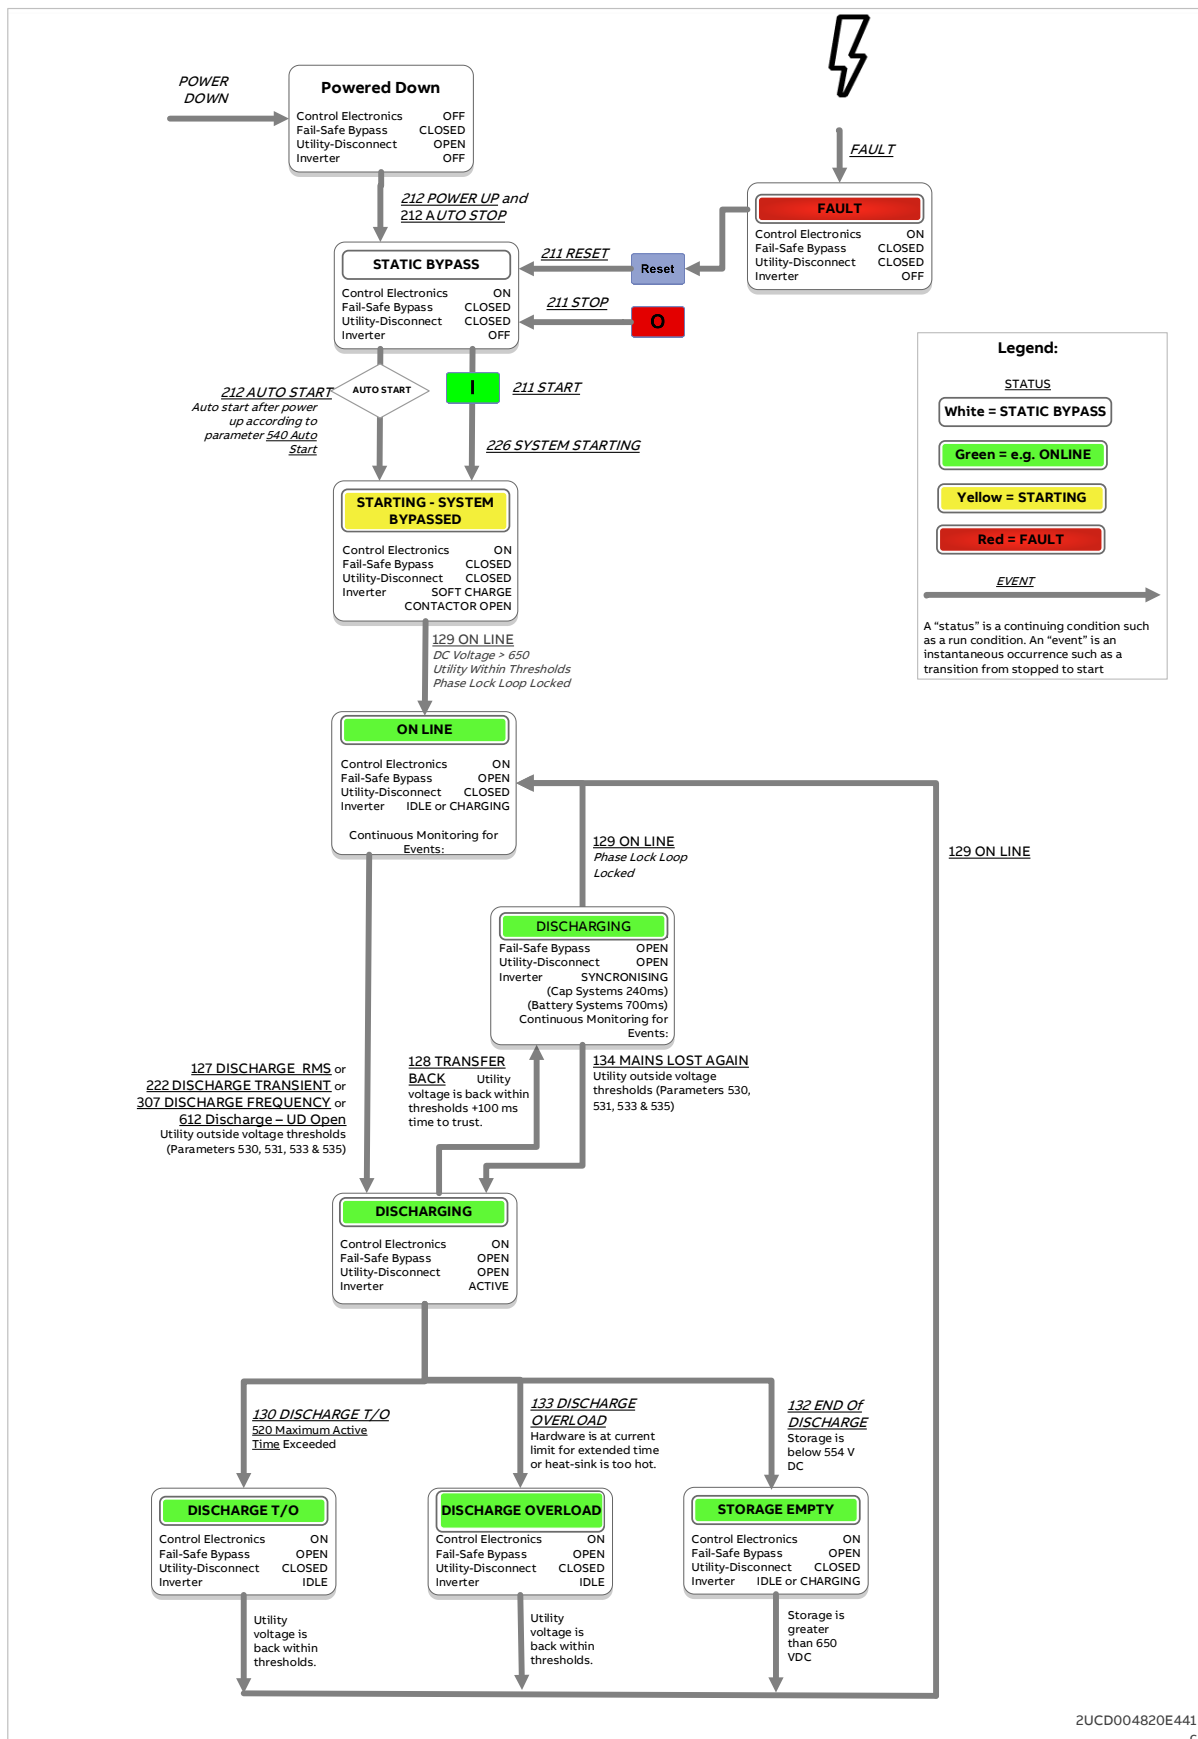

Figure 7-6: PCS100 UPS-I state flow diagram
1. PCS100 UPS-I Status. Refer to Table 7-4 for a complete list of status messages. See also Figure 7-6
Figure 7-6 shows the PCS100 UPS-I state flow diagram.